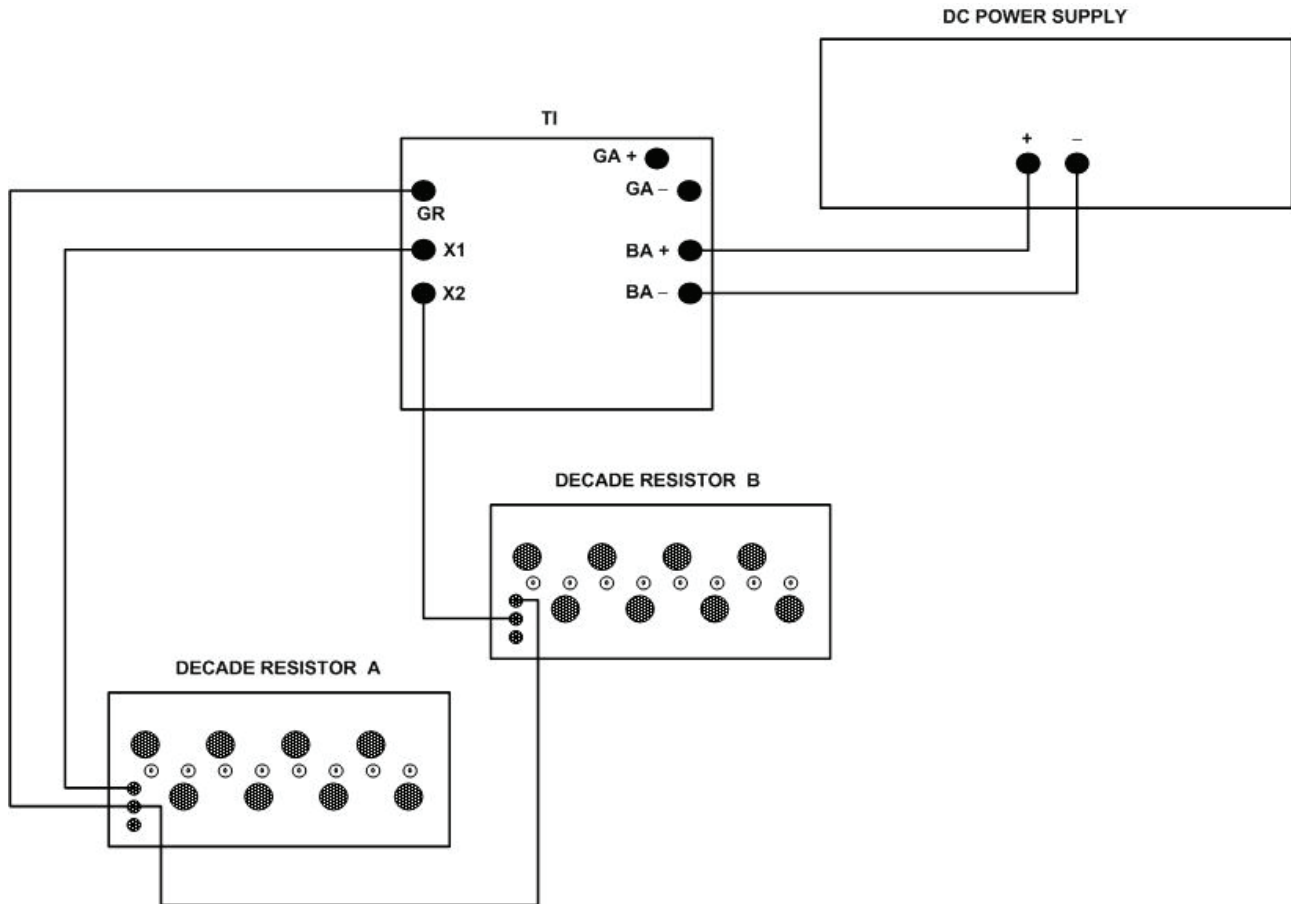

Figure 2. Murray loop check - equipment setup.
- (1) Position TI controls as listed in (a) through (f) below:
- (2) Connect equipment as shown in figure 2.
- (3) Adjust both decade resistors to 0 ohms and record TI galvanometer reading as TI zero resistance.
- (4) Adjust decade resistor A to 1000 ohms.
- (5) Adjust DC power supply for 25 volt dc output as indicated on power supply meter.
- (6) Position TI **MULTIPLY BY** switch and decade dials to settings listed in table 6.
- (7) Depress TI **GA SENS .01**, **.1**, and **1** in turn while increasing or decreasing resistance of decade resistor B until TI galvanometer pointer indicates 0. Indications on decade resistor B will be within limits listed in table 6, minus zero resistance recorded in step (3) above.